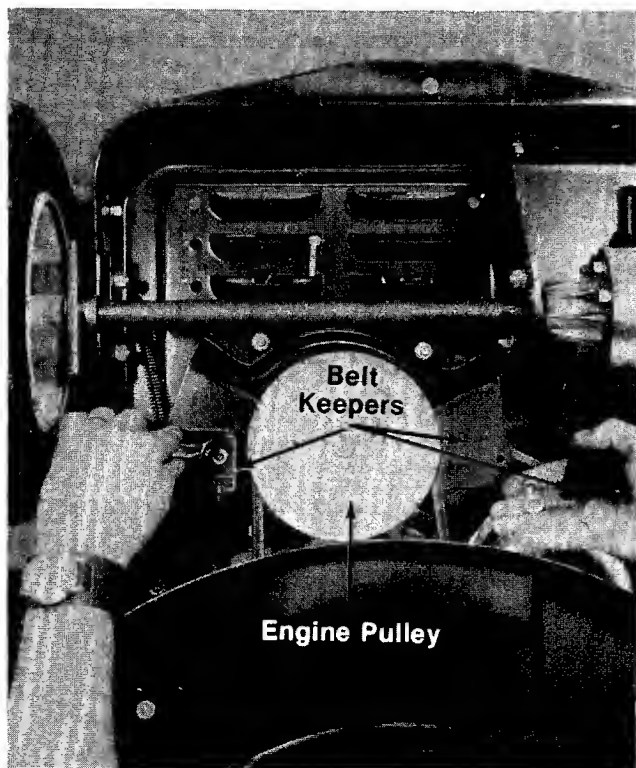

FIGURE 18. REMOVAL OF BELT KEEPERS
2. Remove two belt keepers at the engine pulley. See figure 18.